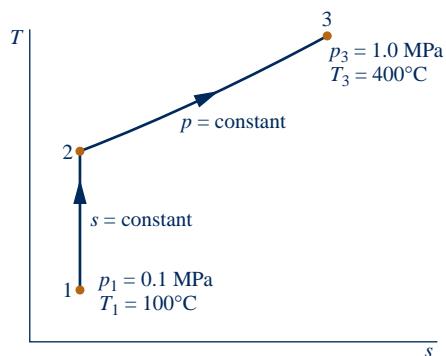

Fig. P6.21
6.21 One kilogram of water in a piston–cylinder assembly undergoes the two internally reversible processes in series shown in Fig. P6.21. For each process, determine, in kJ, the heat transfer and the work.